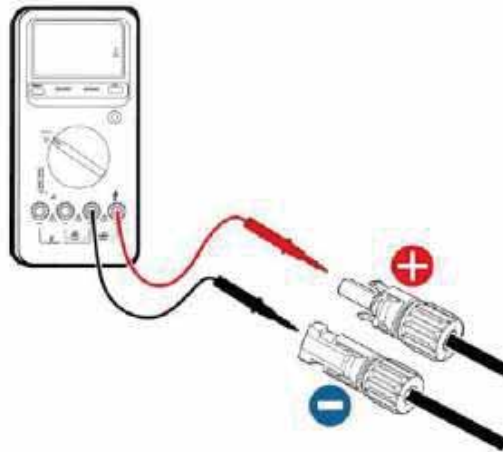

Figure 4.16 DC input voltage measuring
- (1) Before connecting the inverter to PV string, ensure proper measures against lightning and short circuit have been taken;
- (2) Open the wiring bin of the inverter, make the anode and cathode of the PV string whose terminals have been well crimped go through the water-proof PG head, and fix the terminals to corresponding position, and ensure the conductor of the lead is unexposed and crimped firmly;
- (3) Before connecting DC connector to inverter, use a multimeter to measure the voltage of the DC input string, verify the polarity of the DC input cable, and ensure that the voltage of each string is within the allowable range of the inverter, as shown in Figure 4.16.
- (3) After the DC connector is connected, use a multimeter to measure the voltage of the DC input string, verify the polarity of the DC input cable, and ensure that the voltage of each string is within the allowable range of the inverter, as shown in Figure 4.16.